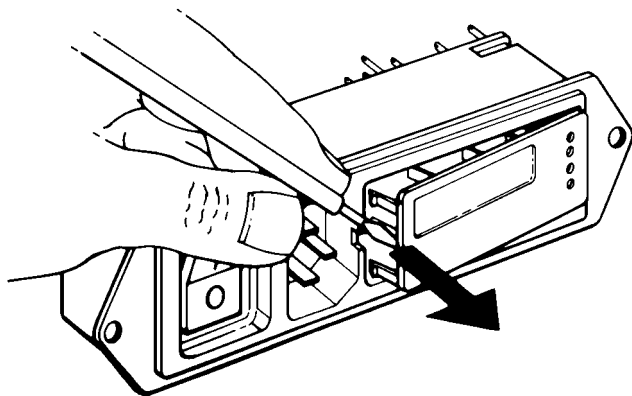
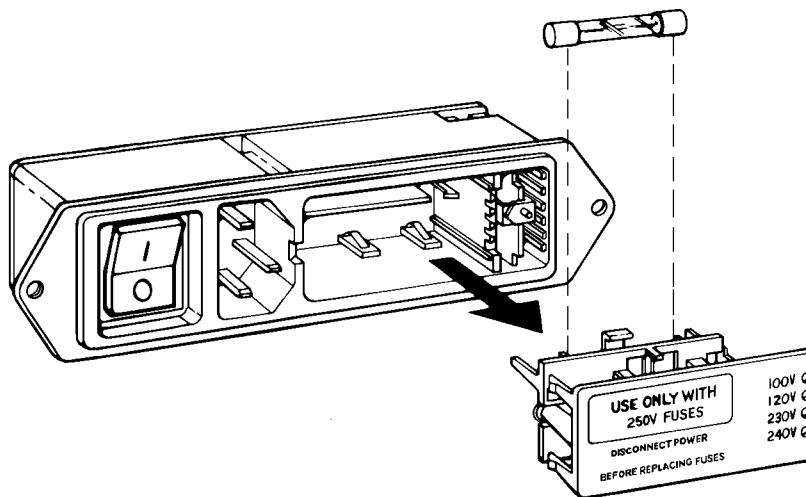

Figure 3-5. Prying Out Fuse Housing
Figure 3-6. Removing Fuse Housing
- (b) Insert a small screwdriver into the middle of the connector and pry out the fuse holder, as shown in Figure 3-5. Remove the fuse holder from the line input connector, as shown in Figure 3-6